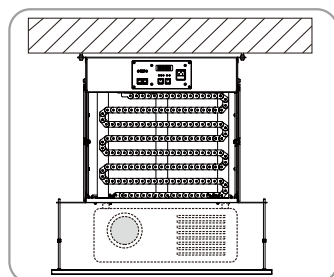

Figure 19
13. Adjust the height of decorative ceiling plate depended on the actual ceiling height, and twist setscrew nut on the 200mm long screws assembled in the four corners of decorative ceiling plate. Themax heightis about 200mm (Figure19).